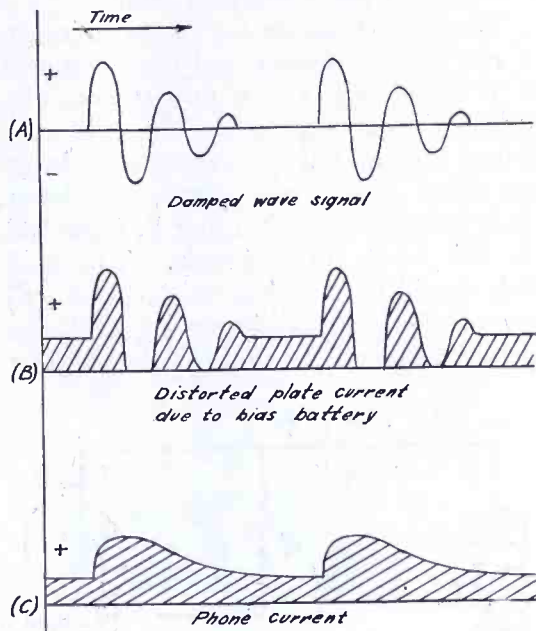

Fig. 3. Detection in Tube Circuit Using Grid Bias Battery
Rapid radio-frequency pulses as shown in Fig. 3 (A) and (B) can produce no
effect on the receiving diaphragms because (1) the inductance in the receiver coils is too great; (2) the inertia of the diaphragms will not permit them to respond to such rapid pulsations. The receiving diaphragms can, however, respond to the grouped effect of each spark as shown by Fig. 3 (C) and the result is an audible note. The frequency heard will correspond to the number of